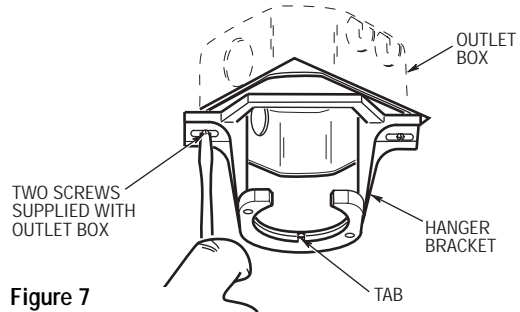
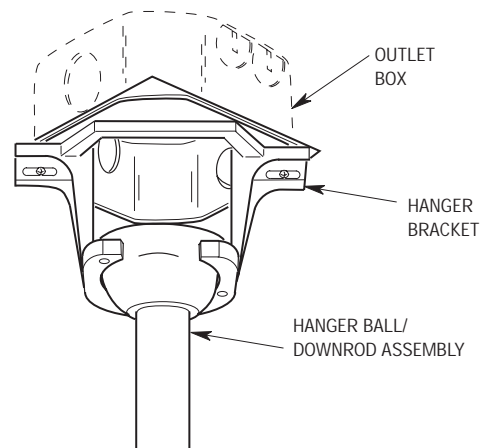

Figure 7
Figure 8
- 1. Securely attach the hanger bracket to the outlet box using the two screws supplied with the outlet box (Figure 7).
- 2. Carefully lift the fan and seat the hanger ball/downrod assembly on the hanger bracket that was just attached to the outlet box (Figure 8). Be sure the groove in the ball is lined up with the tab on the hanger bracket (Figure 7).